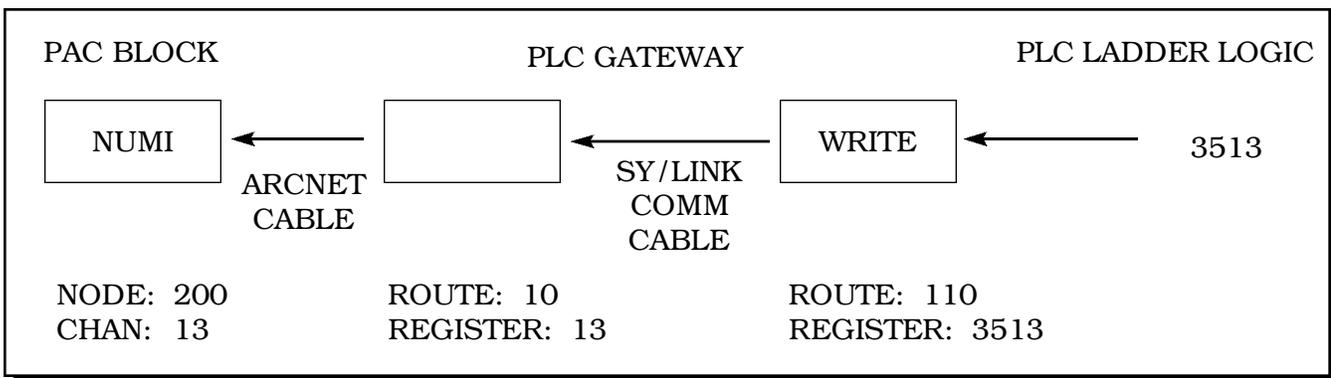

Figure 4. **PLC to PAC Numeric Input**
**Numeric Inputs (NUMI)** to a PAC schematic from a PLC is illustrated in Figure 4.